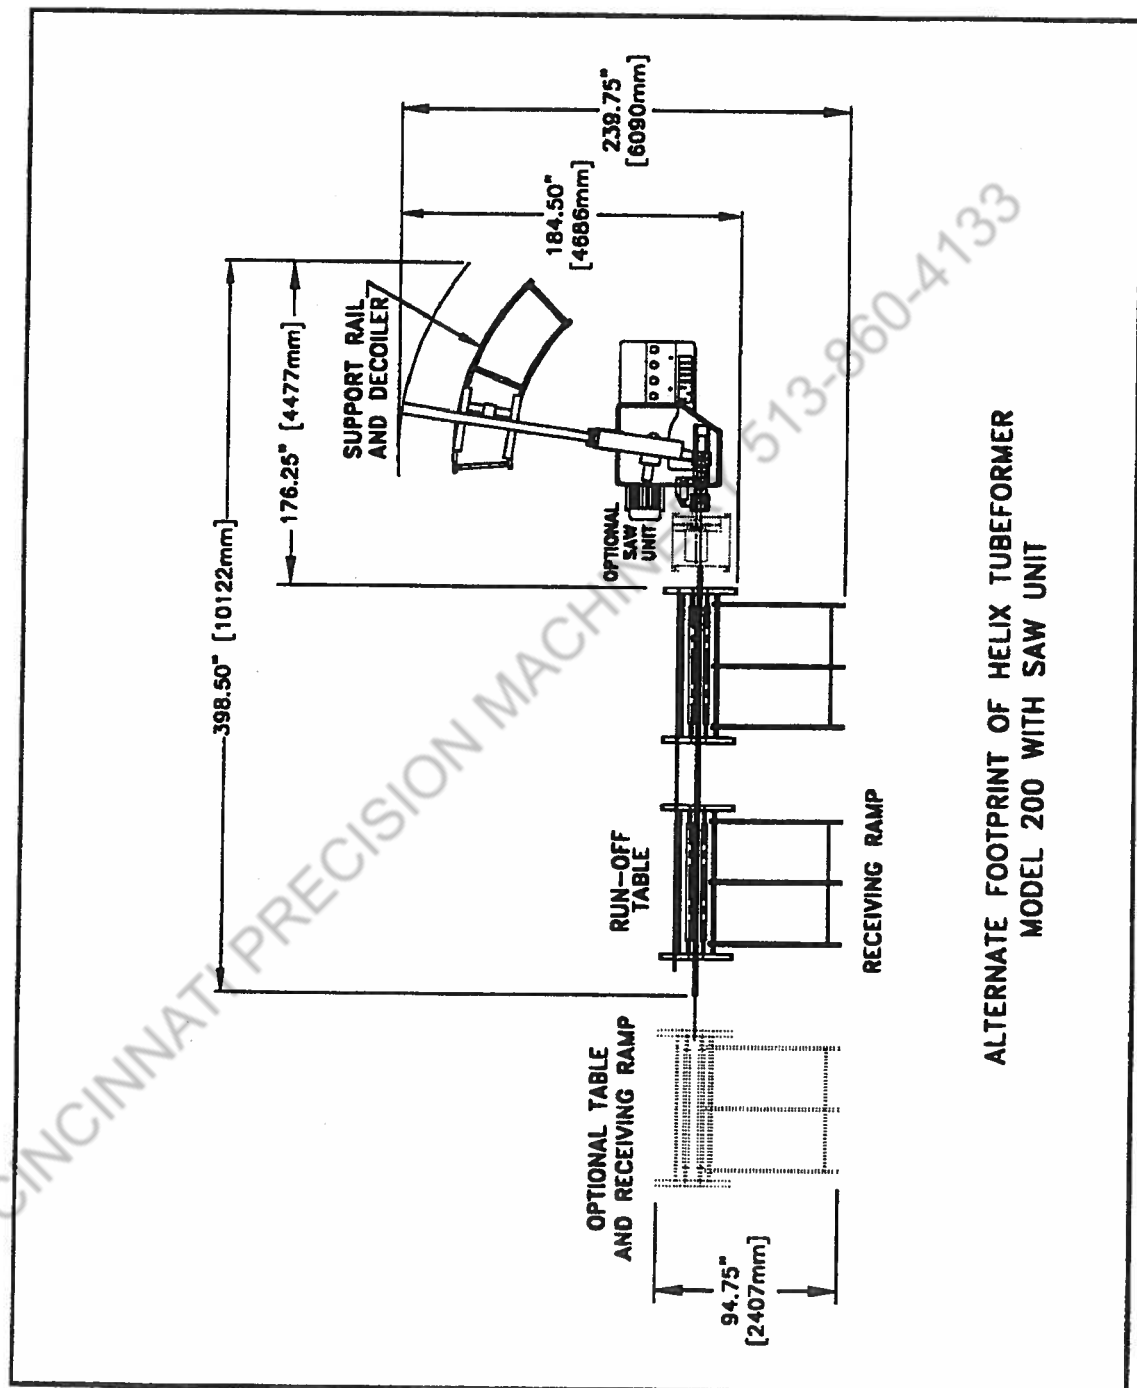

Fig. 40 - The Alternate Z-shaped Footprint
- 6.1.2** The site must have a floor space availability sufficient to accommodate a minimum installed space of 351 square feet (32.6 square meters) distributed as shown in Fig. 39 or Fig. 40, with additional floor space sufficient to comply with all local, industry, and national practices and codes. The surface of the designated site shall be flat and level to within 1/8 inch end-to-end, and have a weight carrying and anchoring capacity equivalent to a concrete floor of 4 inches minimum thickness.
The Z-shape layout (Fig. 40) places the receiving ramp(s) on the opposite side of the centerline of the forming head as the decoiler. Except for the placement and distribution of the components of the HELIX-200, the total space requirement for the Z-shape layout is approximately the same as that for the L-shape layout. In particular, the dimensions along the axis of the forming head are exactly the same in the Z-shape configuration as in the L-shape configuration, either when the standard equipment is configured or when optional equipment is added.